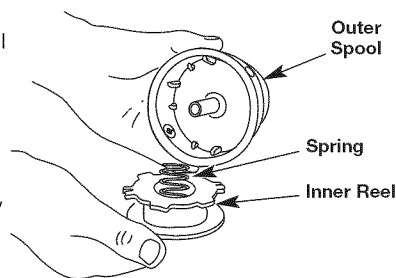

Fig. 15
2. Remove the inner reel from the outer spool (Fig. 15).
3. Remove spring from the inner reel (Fig. 15).
- Remove the old inner reel from the outer spool (Fig. 15).
- Remove the spring from the old inner reel (Fig. 15).